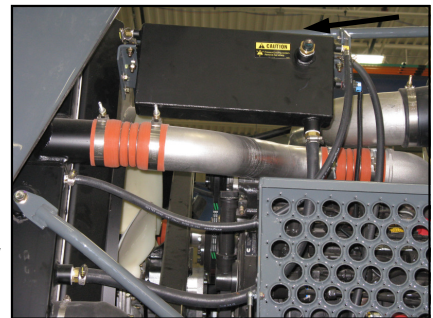

FIG 87-1
**CHECKING CONCENTRATION**– The radiator cap is located on the right side of the engine compartment on the surge tank (fig. 87-1). Never remove the cap from a hot engine. Always allow the engine to cool before servicing the cooling system.